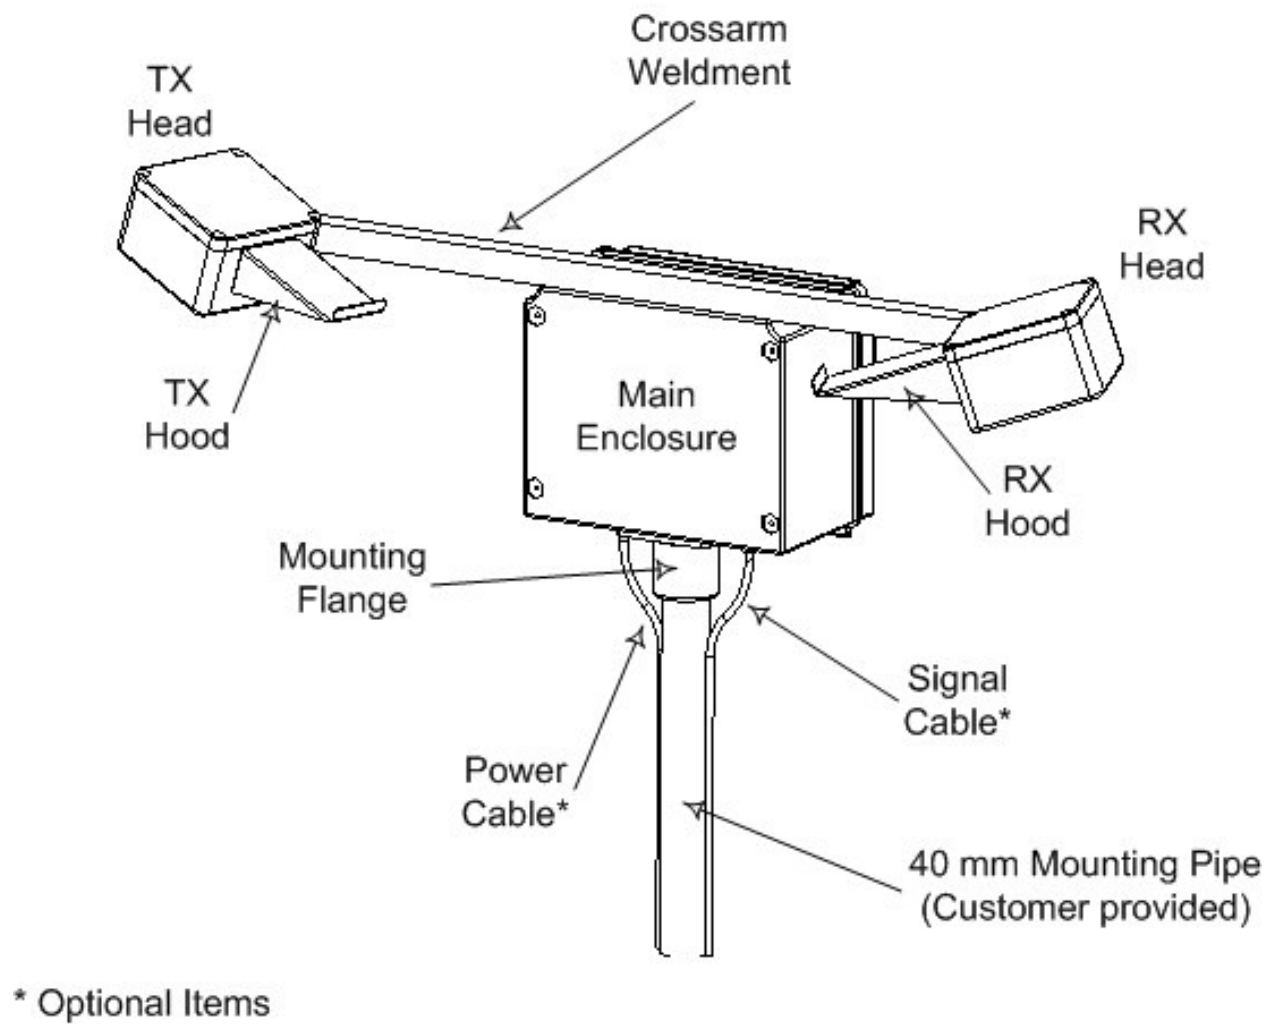

Figure 1.3-1 Sentry™ Major Components
The Sentry™ is a compact sensor consisting of three (3) major components mounted to a cross arm as shown in Figure 1.3-1. A description of the major components is provided in Table 1.3-1:
Main Electronics Enclosure	<p>Externally, the Main Enclosure consists of a weatherproof enclosure with hinged door for easy access. A mounting flange is attached to the bottom of the Enclosure for attachment to a support pole of 40 mm dia (1-½" Schedule 40) pipe. A mounting plate is attached to the backside of the Enclosure for use in calibrating the sensor (not shown in Figure 1.3-1). The internal components are discussed in the next section.</p>